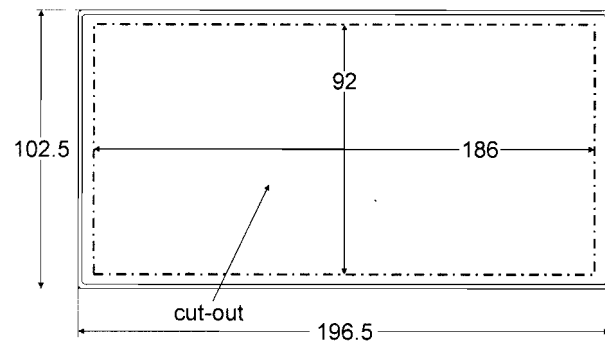

Fig. 12. Template for cut-out
2. Cut out a hole in the door according to the template presented in Fig. 12.